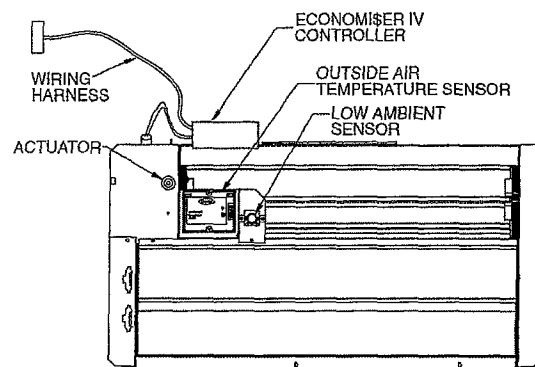
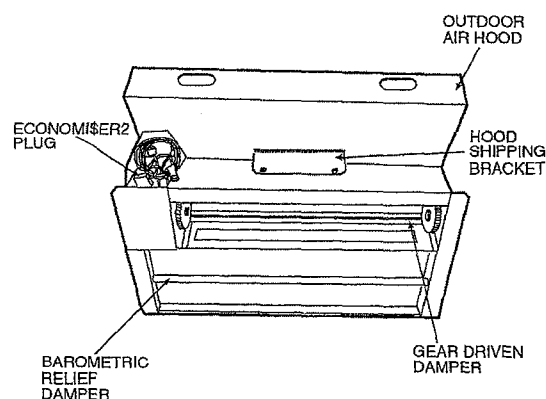
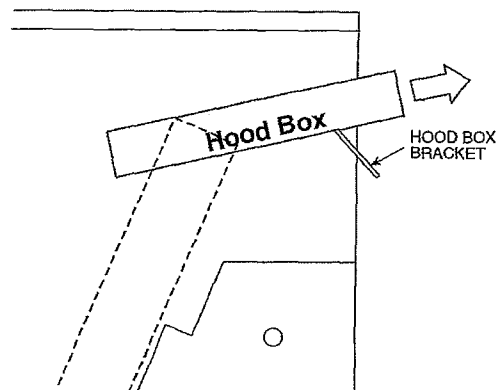

Fig. 25 — EconoMiSer IV Component Locations
Fig. 26 — EconoMiSer2 Component Locations
Fig. 28 — Hood Box Removal
OPTIONAL ECONOMISER IV AND ECONOMISER2 — See Fig. 25 for EconoMiSer IV component locations. See Fig. 26 for EconoMiSer2 component locations.
2. The box with the economizer hood components is shipped in the compartment behind the economizer. The EconoMiSer IV controller is mounted on top of the EconoMiSer IV in the position shown in Fig. 25. The optional EconoMiSer2 with 4 to 20 mA actuator signal control does not include the EconoMiSer IV controller. To remove the component box from its shipping position, remove the screw holding the hood box bracket to the top of the economizer. Slide the hood box out of the unit. See Fig. 28.
Outdoor Air Temperature (OAT) Sensor — The outdoor air temperature sensor (HH57AC074) is a 10 to 20 mA device used to measure the outdoor-air temperature. The outdoor air temperature is used to determine when the EconoMi\$er IV can be used for free cooling. The sensor is factory-installed on the EconoMi\$er IV in the outdoor airstream. See Fig. 25. The operating range of temperature measurement is 40 to 100 F.
Outdoor Air Lockout Sensor — The EconoMi\$er IV is equipped with an ambient temperature lockout switch located in the outdoor airstream which is used to lockout the compressors below a 42 F ambient temperature. See Fig. 25.